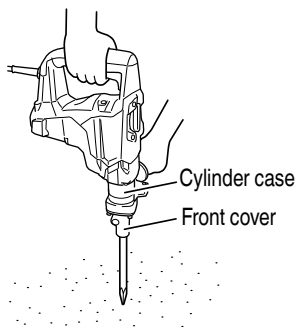

Fig. 5
2. How to chisel or demolish (Fig. 5)